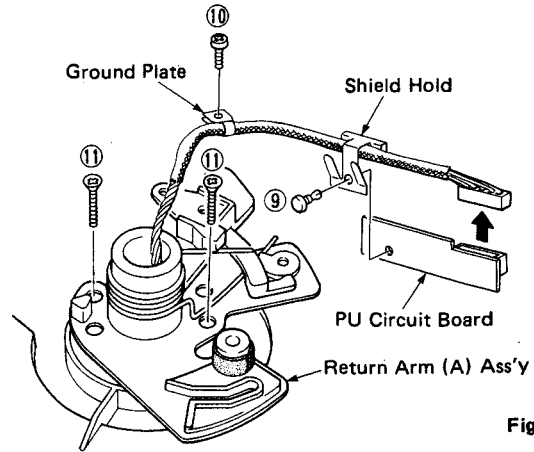

Fig. 7
- a. Remove plastic rivet (⑨) in Fig. 7 and then remove the Shield Hold.
- c. Remove screw (⑩) in Fig. 7, and then remove the Ground Plate.
- d. Remove 2 screws (⑪) in Fig. 7 and then remove the Return Arm (A) Ass'y.